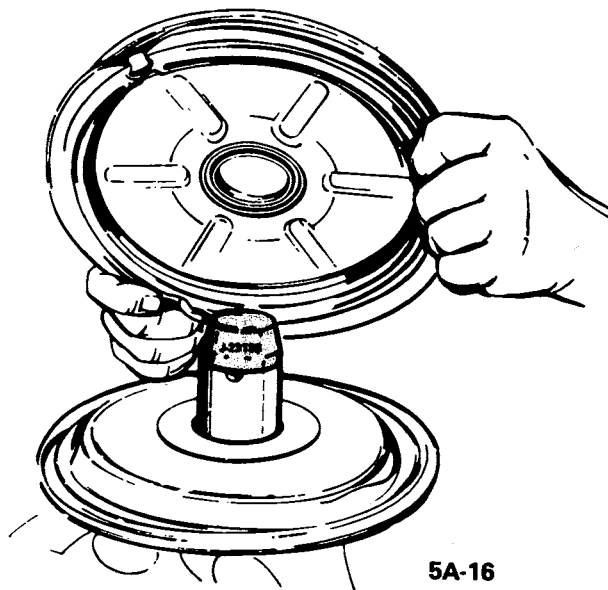

Figure 5A-16 Positioning Housing Divider Over Secondary Bearing Protector Tool J-23188
27. Grip the edges of the secondary support plate, press down, and rotate counterclockwise until the tabs on the secondary power piston contact the stops on the support plate. Fold the secondary diaphragm back into position on the secondary support plate. Leave the secondary power piston assembly on Tool J-23101 in the vise. See Figure 5A-9.
32. Position secondary bearing protector Tool J-23188 on the threaded end of the secondary power piston. See Figure 5A-16.
37. Grip the edge of the primary support plate, press down, and start the threads on the secondary power piston into the threaded portion of the primary power piston by rotating in clockwise direction. See Figure 5A-8.